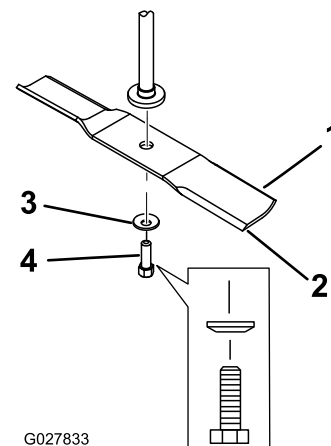

Figure 47
Hold the blade end using a rag or thickly-padded glove. Remove the blade bolt, curved washer, and blade from the spindle shaft (Figure 47).
1. Install the blade onto the spindle shaft (Figure 47).
2. Install the curved washer (cupped side toward the blade) and the blade bolt (Figure 47).